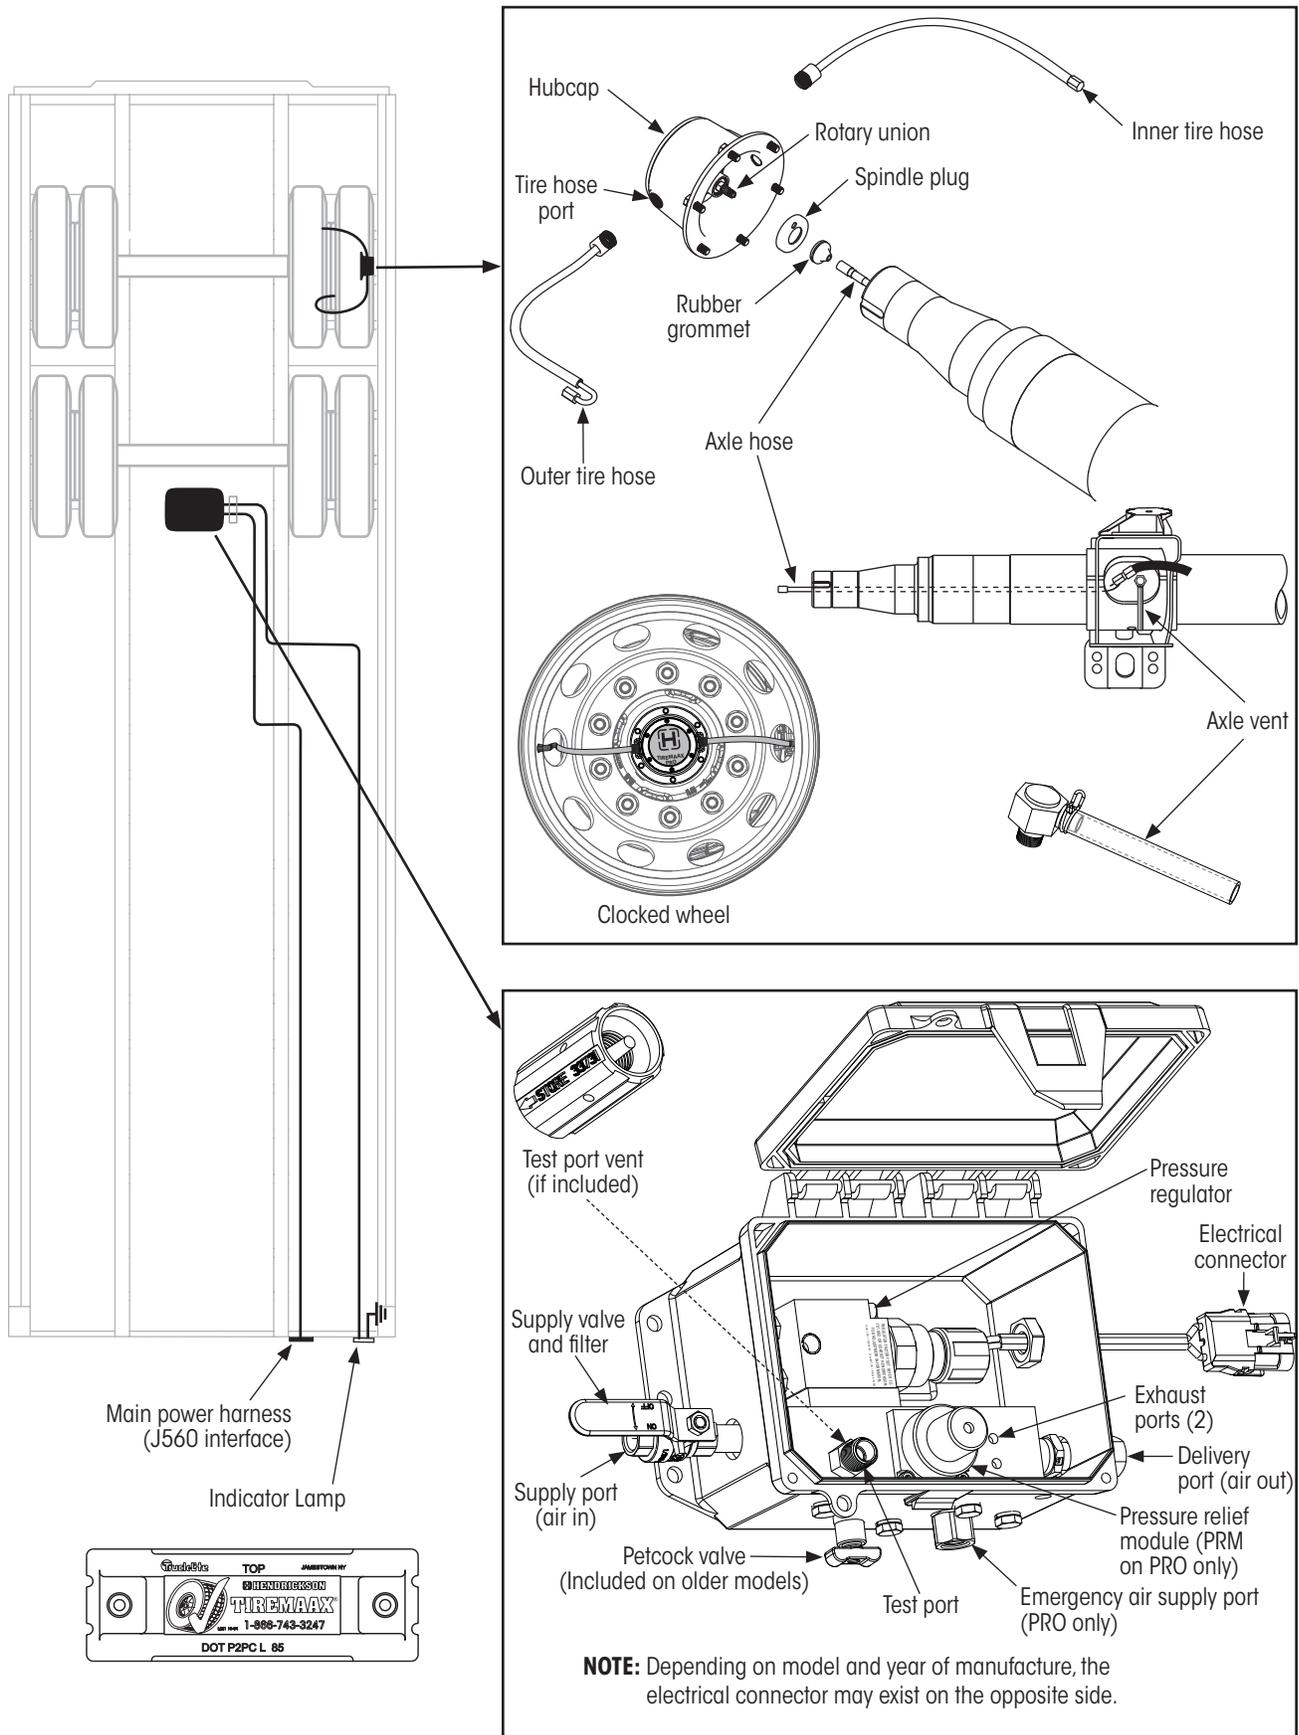

Figure 1: TIREMAX® components (PRO controller shown)
This section includes a brief overview of TIREMAAX® PRO and CP components. Refer to Figure 1 on previous page.
- If the indicator lamp (Figure 1) remains illuminated for more than 10 minutes as the system is attempting to inflate the tires but may not be able to adequately maintain proper tire pressure.